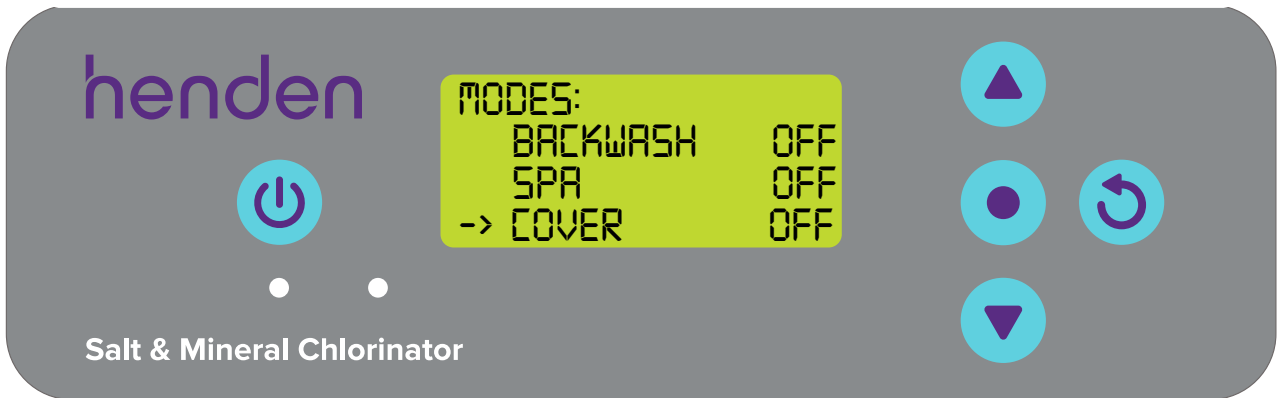

Figure 9.74
- Press the  **menu up/down** buttons to scroll down to COVER (ref Figure 9.74), then select by pressing the  **menu/setting select** button.